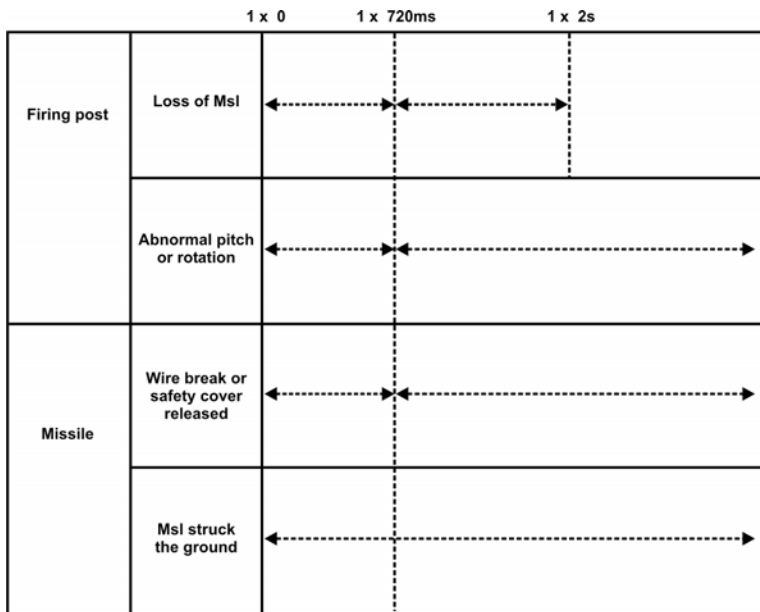

Figure 6-1: TSD Firing Criteria
26. The TSD can be triggered by either the firing post or the missile (see Figure 6-1). It is fired: